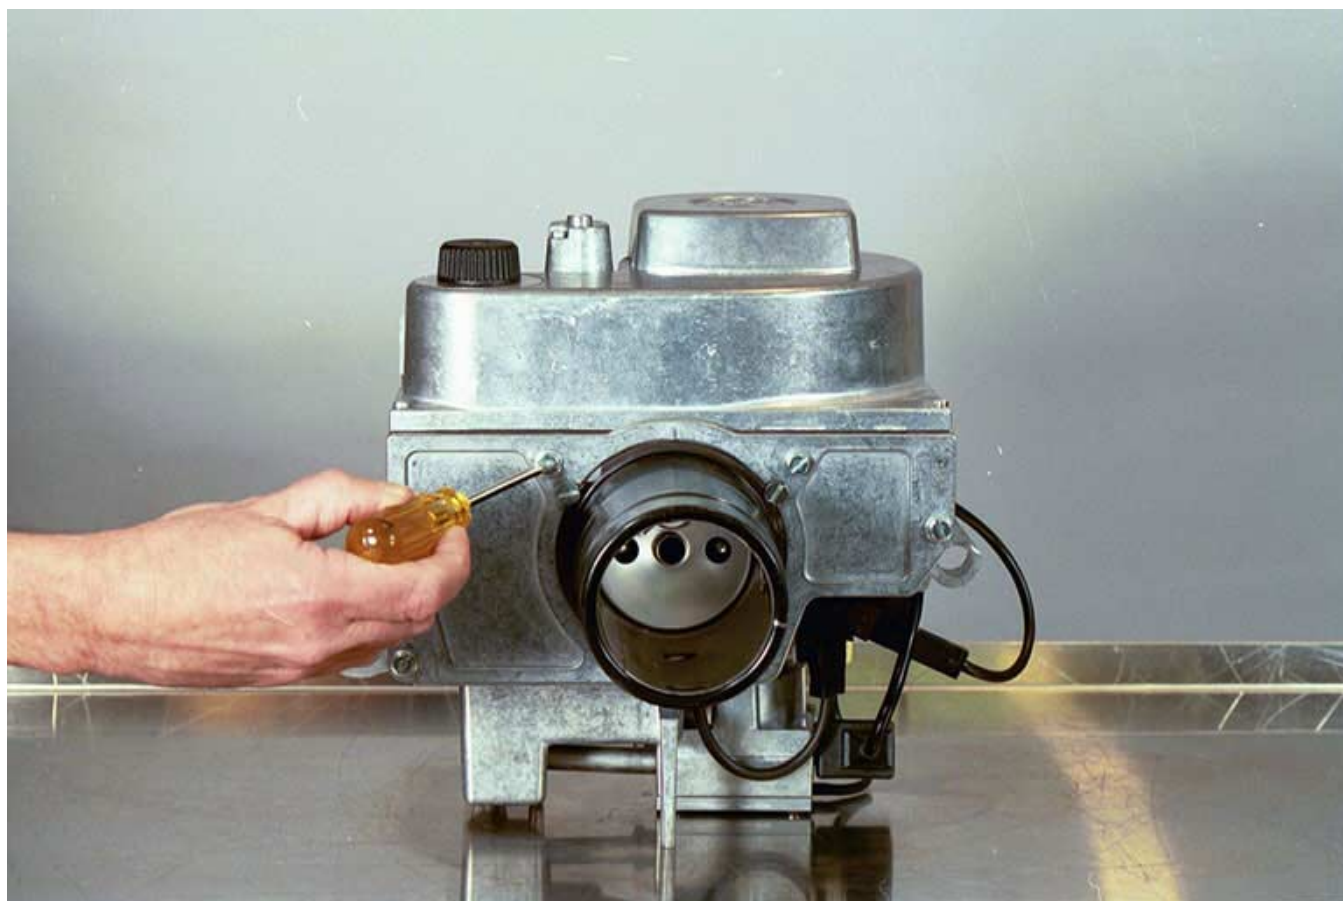

Figure 5-10. Front Flange Removal
To best determine which of these problems exist, remove the front flange assembly with air tube and flame tube to fully expose the atomizing chamber with its dual atomizers. This can easily be done by removing the three screws that hold the front flange assembly to the lower fan housing (figure 5-10). Now, turn on the "blower" switch while observing the surface of the atomizers. If a thin film of fuel can be seen passing over the atomizers, the problem is not with the fuel supply system. This observation should be made in a well lighted area and can best be seen immediately after the "blower" switch is energized. It may be difficult to detect the thin film of fuel passing over the atomizers, so it may be necessary to exercise the switch several times while observing the surface of the atomizers.
- a. Step 1. First remove the front flange of the lower fan housing by removing the three screws (figure 5-10) with a flat tip screwdriver to expose the atomizing chamber. It is not necessary to remove the air tube/flame tube assembly.